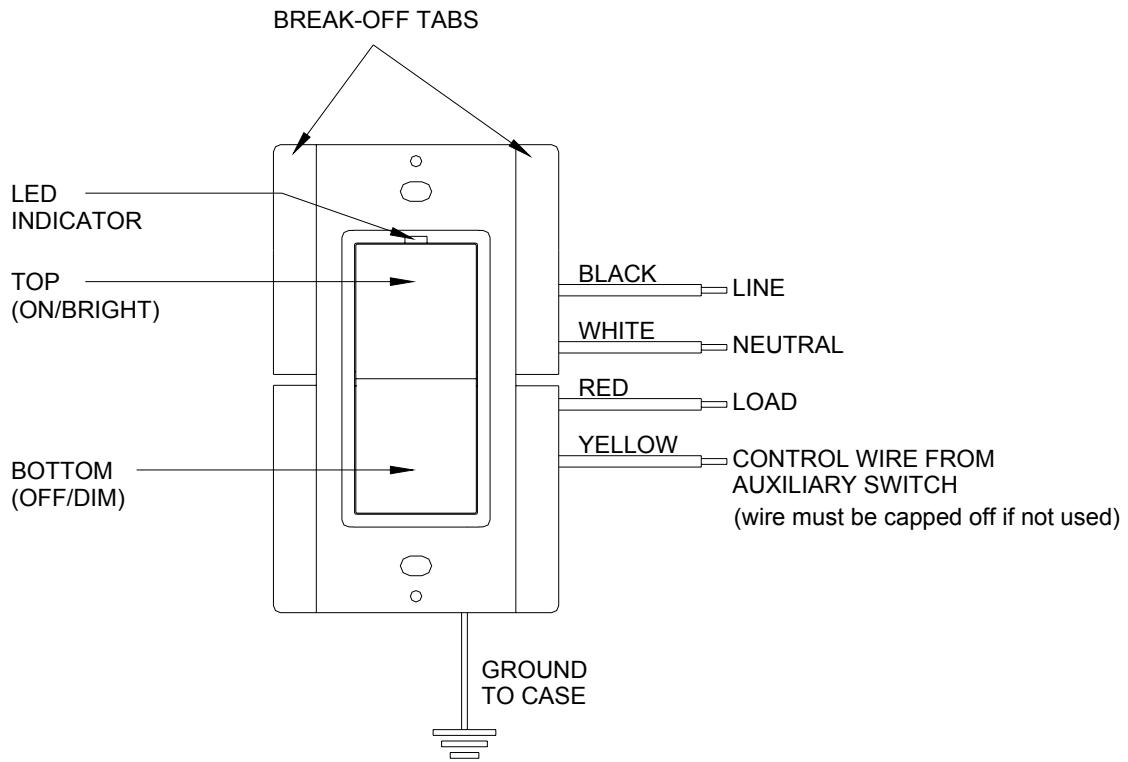

Figure 1: HAI UPB™ Wall Switch Dimmer
The HAI UPB™ Wall Switch Dimmer (Figure 1) is a high quality light-switch/dimmer that not only allows for local rocker switch control of a lighting load but also incorporates UPB™ two-way powerline communication technology that gives it the ability to be remotely controlled by other UPB™ compatible controllers. The HAI UPB™ Wall Switch is highly configurable to allow for behaviors customized to each individual's desires. The HAI UPB™ Wall Switch is capable of storing up to 16 preset light levels and fade rates to create powerful lighting scenes. The HAI UPB™ Wall Switch is also capable of transmitting UPB™ messages (including a current light level report) when rocker switch events occur. The HAI UPB™ Wall Switch is capable of being set to a non-dimming mode in order to control such loads as fluorescent lights.
1. Refer to Figures 1 and 2 to determine the wire colors of the hook-up.
For a proper fit in a multiple gang installation, it may be necessary to remove one or both sides (break-off tabs) from the mounting plate (see Figure 1). When tabs are removed, the overall rating of the device must be reduced in accordance with the following chart: